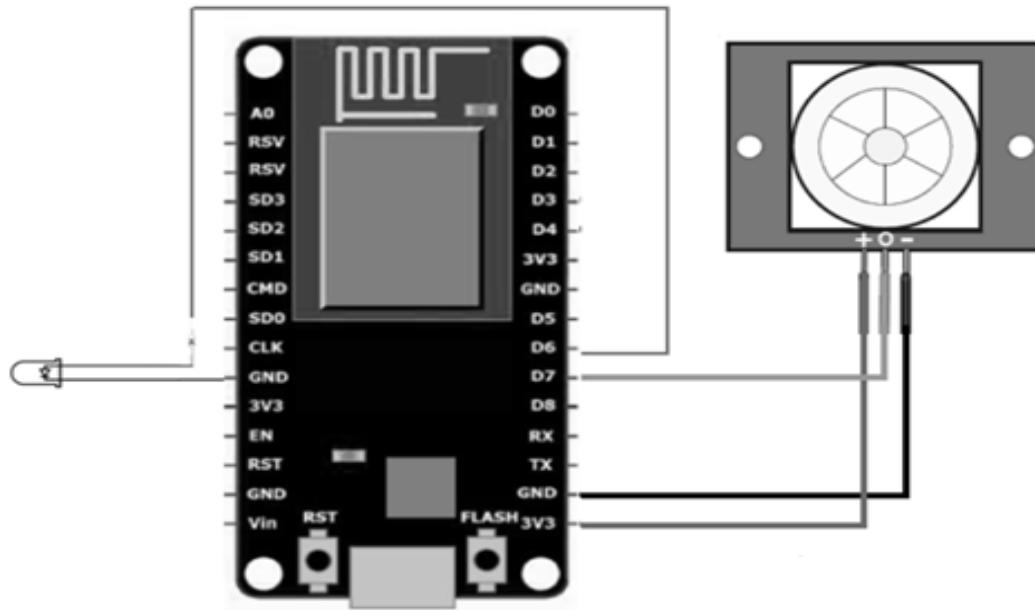

Figure 5.2: Circuit diagram of interfacing NodeMCU with PIR sensor
1. Interface PIR sensor to NodeMCU as per circuit diagram shown in fig. 5.2.